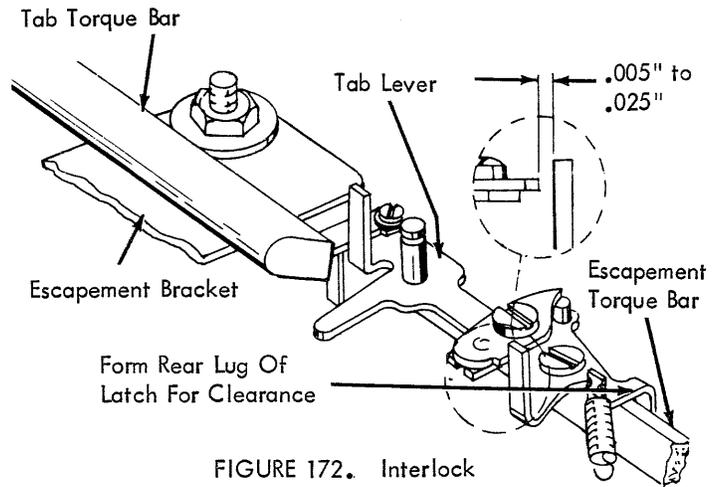

FIGURE 172. Interlock
12. Carrier Return/Tab Interlock (Fig. 172) - With the carrier return clutch latched, the upright lug of the tab latch should clear the end of the tab lever pawl by .005" to .025". The rear lug of the tab latch should be formed forward or back to obtain this condition.